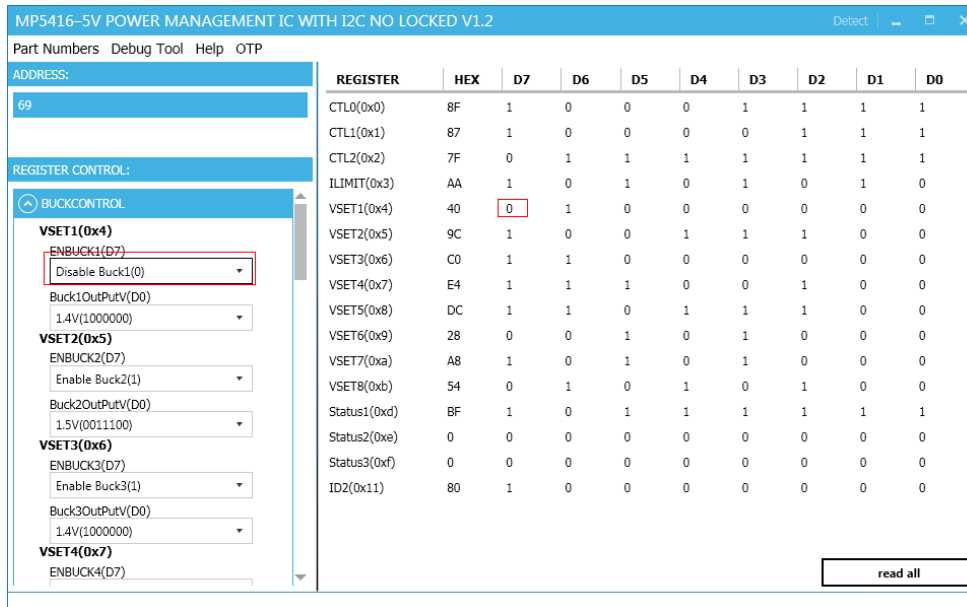

Figure 11: Refer to Datasheet to Translate 0's and 1's
5. Click the “Read All” button to update values. The changed information of the item will appear on the right side (see Figure 11).